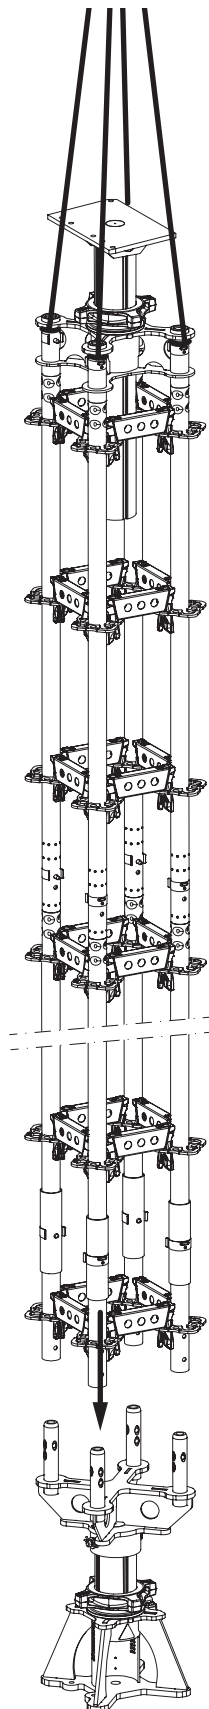

Fig. A2.05
2. Place the standard set with base standards on the connection plate (2) and lower it. (Fig. A2.05)